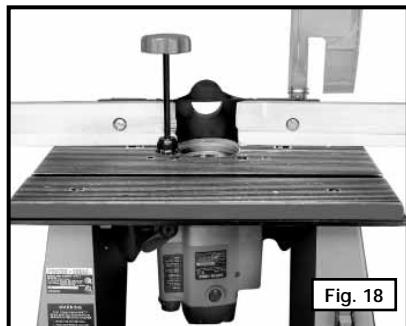
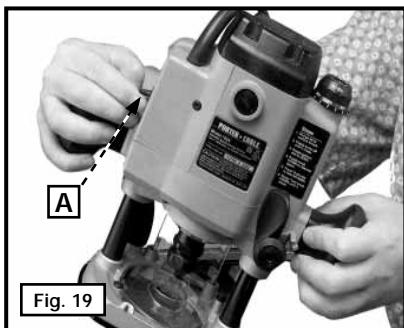

Fig. 18
Fig. 19
4. While holding the plunge-locking lever in (A) Fig. 17, turn the plunge-locking bolt (B) Fig. 17 clockwise to turn the plunge-locking bolt in or counter-clockwise to turn the plunge-locking bolt out. Turn it one position at a time until you achieve the proper adjustment. Proper adjustment is indicated when you can lock the plunge-locking lever (A) Figs. 18 and 19 in the free motion position (Fig. 18), and into the plunge-locked position (Fig. 19).
5. Move the plunge-locking lever (A) Figs. 18 and 19 to the center of the two positions. Insert the hex wrench through the center of the plunge-locking bolt (B) Fig. 16 into adjustment screw. Turn it clockwise to tighten.
Hold the tool in the operating position. Use the index finger on your right hand to raise the switch (A) Fig. 19 to the "ON" position. The tool will remain "ON" until you lower the switch (A).